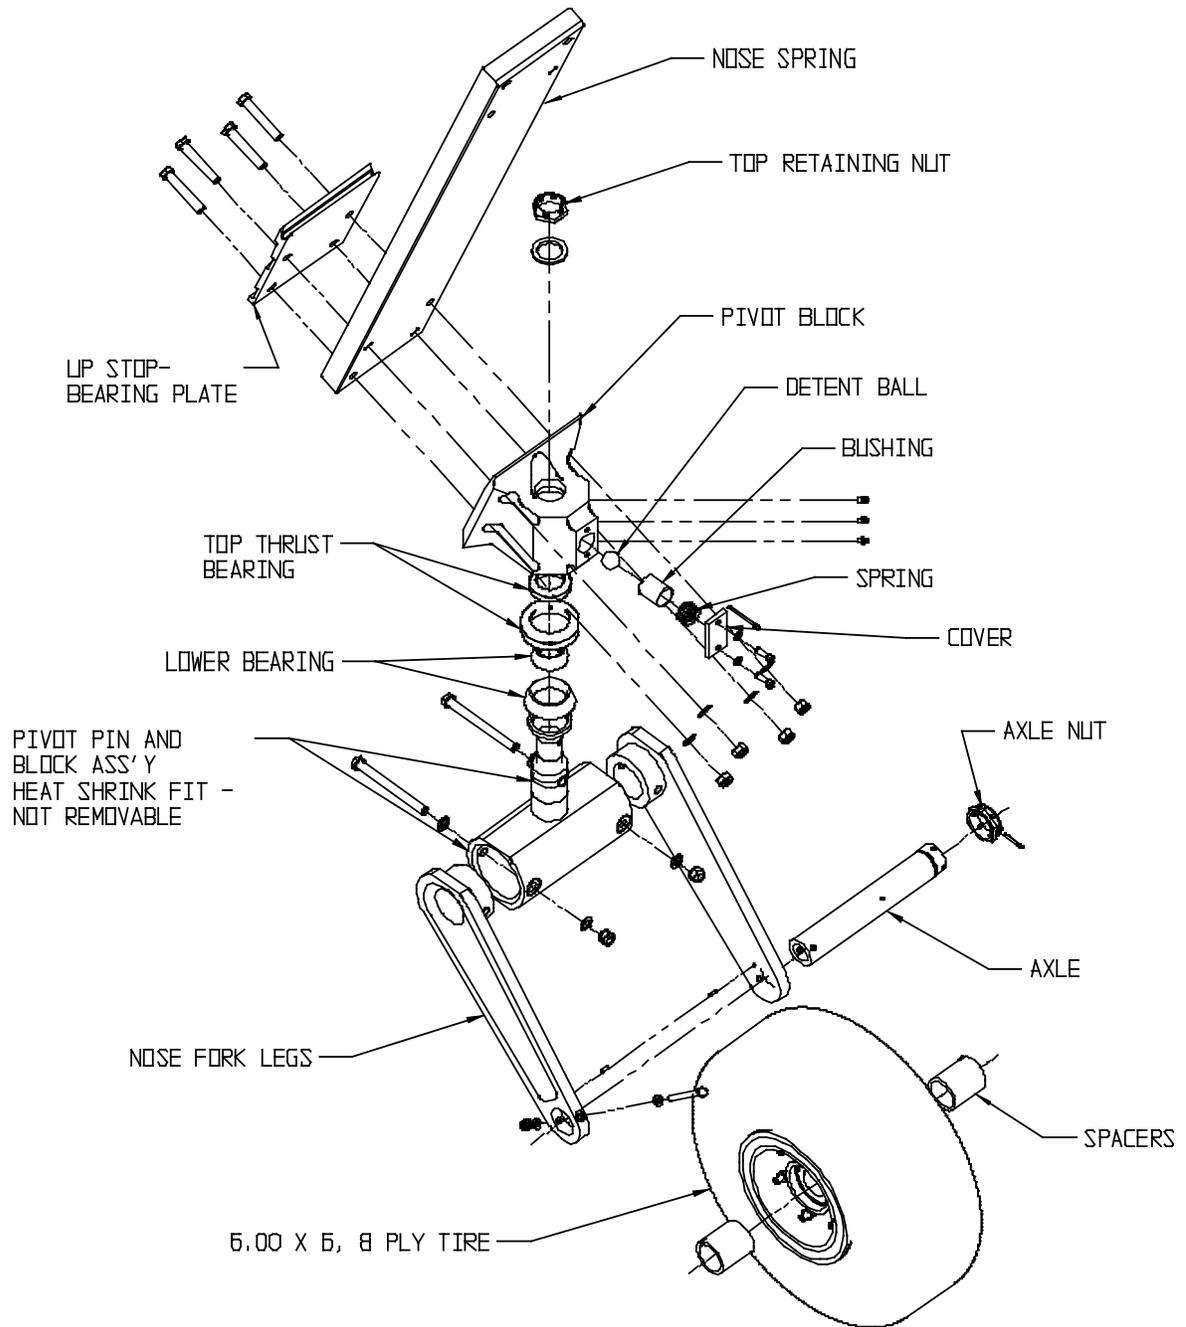

FIGURE 2.10 ASSEMBLY – NOSE GEAR LOWER END
Main wheel tires are standard 8:50 x 10, 8-ply type III aircraft tires, inflated to 50 +/- 5 psi. (Refer to figure 2.10)
On top of pivot block, remove cotter pin from retaining nut. Remove nut. On aft side of pivot block, remove the (2) cap bolts on .25 thick cover. Remove spring. This will loosen retaining ball and lower fork will slide out. Refer to figure 2.10 for assembly.